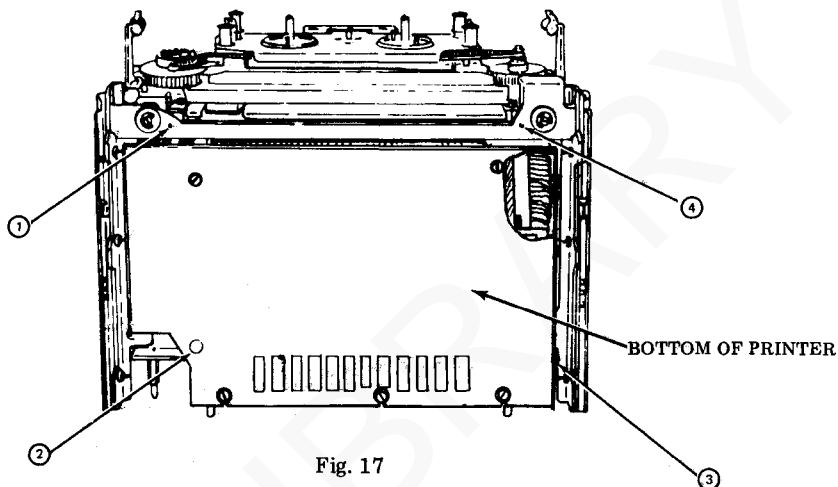

Fig. 17
- Step 3. Position printer on its back. Immobilize unit vibration mounts by tightening the four immobilizing screws. See Fig. 17.